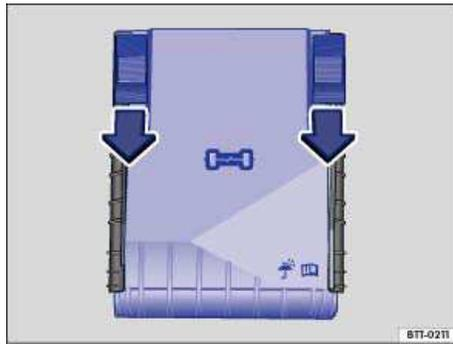

Fig. 197 In the engine compartment: Fuse box cover.
- Move the release buttons in the direction of the arrows ⇒ fig. 197 to unlock the fuse box cover.